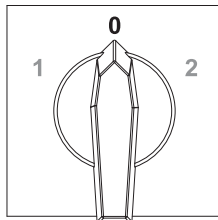

Figure 3-34. Flex Switch—Position 0
- See **Figure 3-34**. Switch the flex switch (if equipped) to position 0.